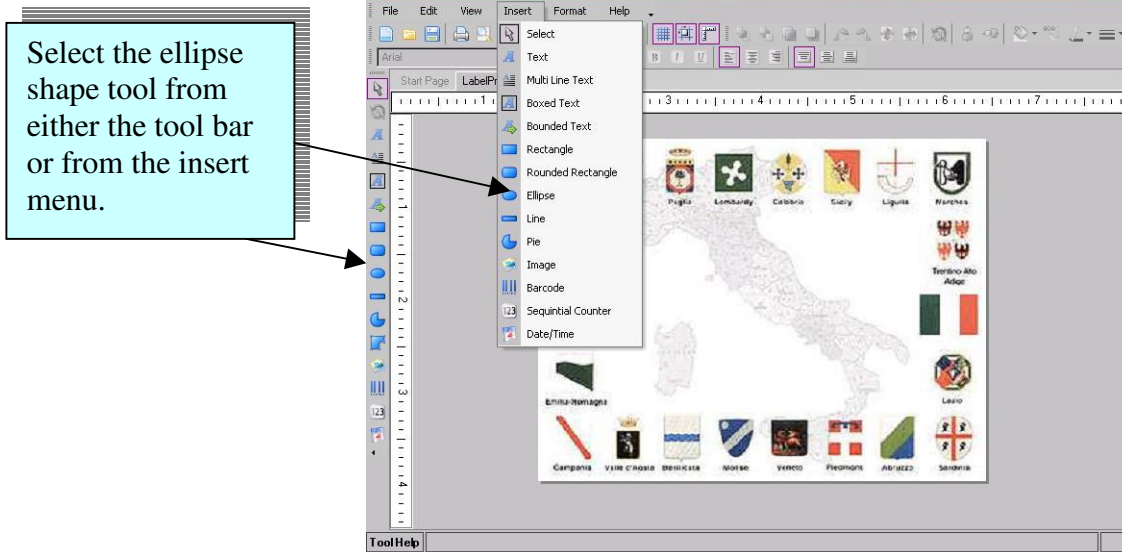

Figure 3.5.3.1: Inserting Ellipse Shape
1. Click on the ellipse shape tool  located on the tool bar, or you can find it in the insert menu (see Figure 3.5.3.1).